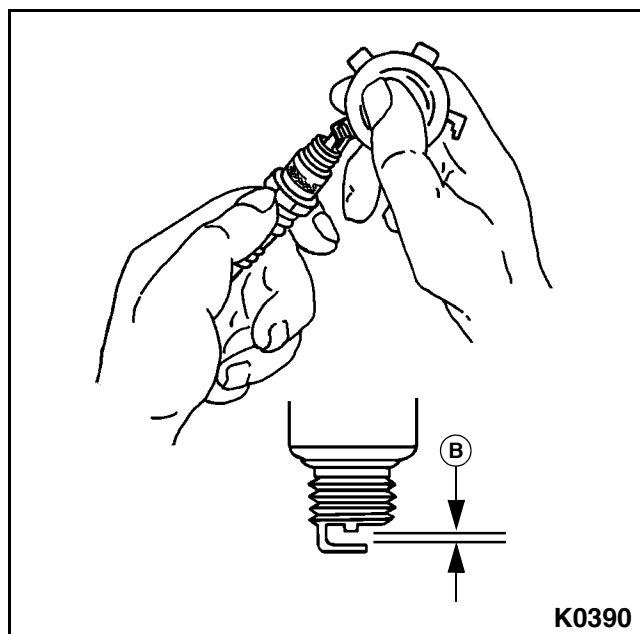

Figure 5-13
6. Use a spark plug gap tool to measure the gap (B) on each new spark plug. Adjust the gap to specification. See Figure 5-13.